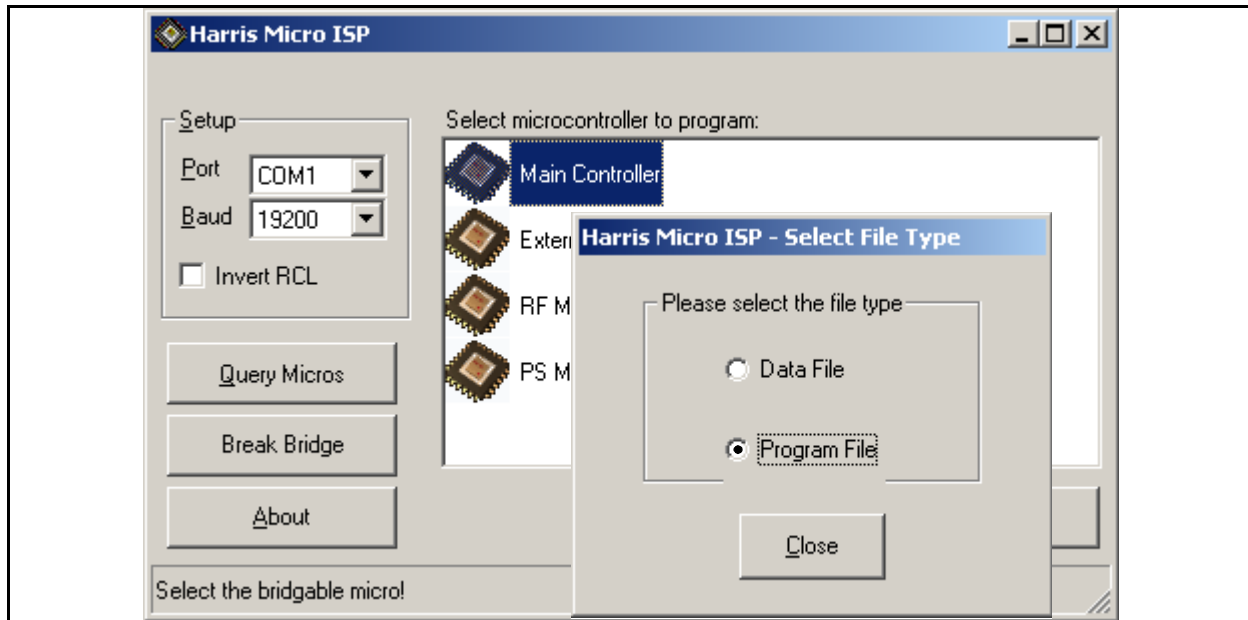

Figure 6-4 Controller Selected for Update, Program File Selected
- STEP 8** Once it has found the micros, select the one you want to update by double-clicking the icon to the left of the name. This will open the smaller pop-up window shown in Figure 6-4.